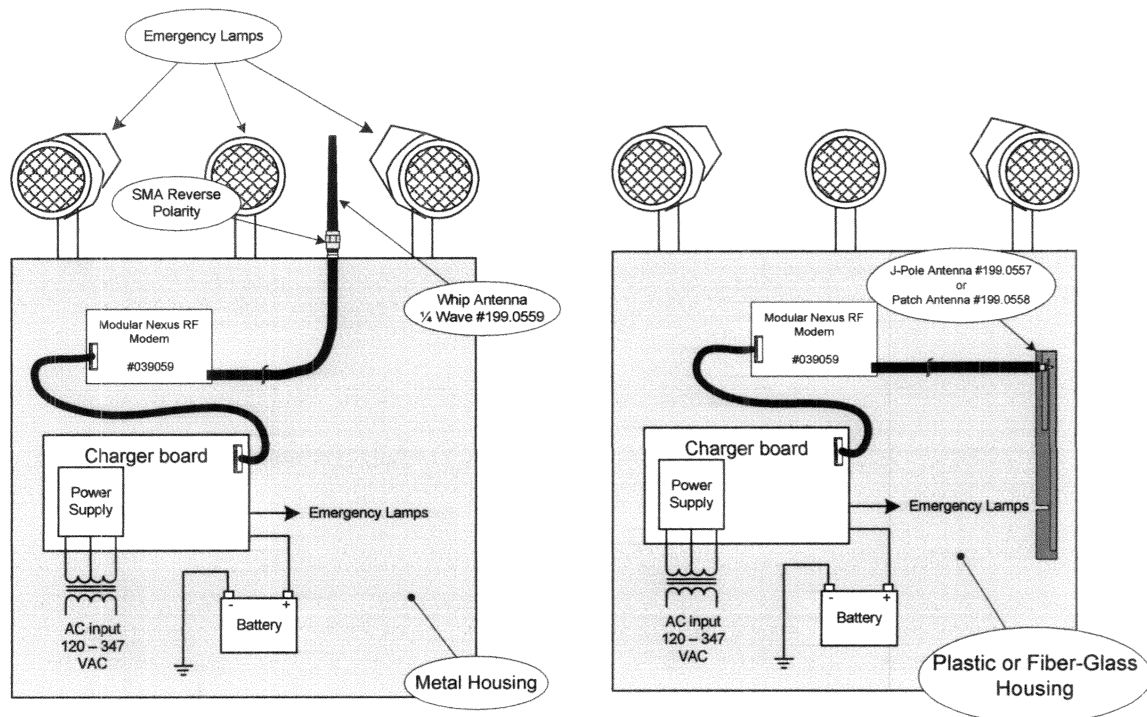

Figure 2
- i. One external Whip antenna type for the metal housing. A SMA reverse polarity connector type is used for this antenna. See an example at Figure 2.
- ii. Two internal antenna types for the plastic and fiber-glass housing. One Patch and one J-Pole antenna could be used for other emergency lighting products depending of the mechanical restrictions. See Figure 2 for example.